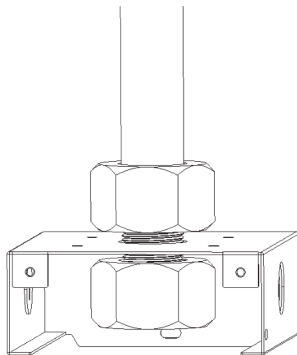

Fig. 3
Secure the top mounting bracket onto the stem/pole by placing one (1) nut before installing the bracket and one (1) nut after, as shown in **Fig. 3**.